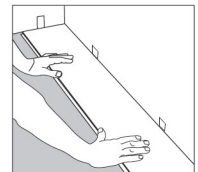

Figure 1
1. Starting from the LEFT with the tongue facing the wall, carefully place the first board in place. Use spacers along the wall allowing required expansion gap (3/8” or 10 mm). (Figure 1)